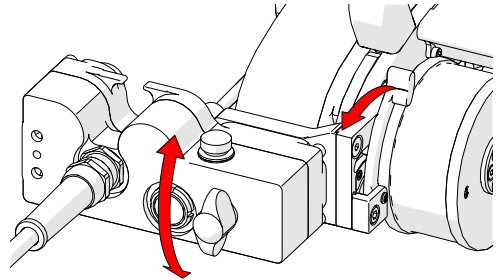
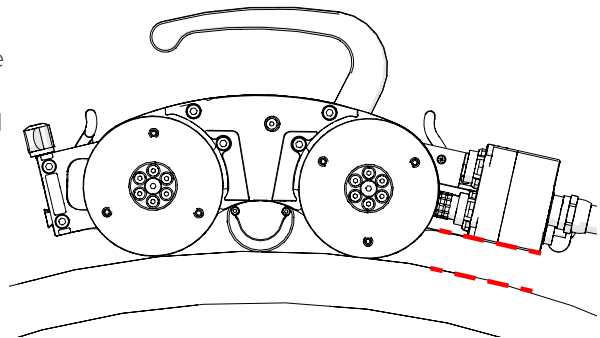

Fig. 104 - Adjust umbilical mount angle
Fig. 105 - Align umbilical parallel to scan surface
7. Unlock the umbilical mount lock lever, align the umbilical parallel to the scan surface (*Fig. 105*), and lock (*Fig. 104*).